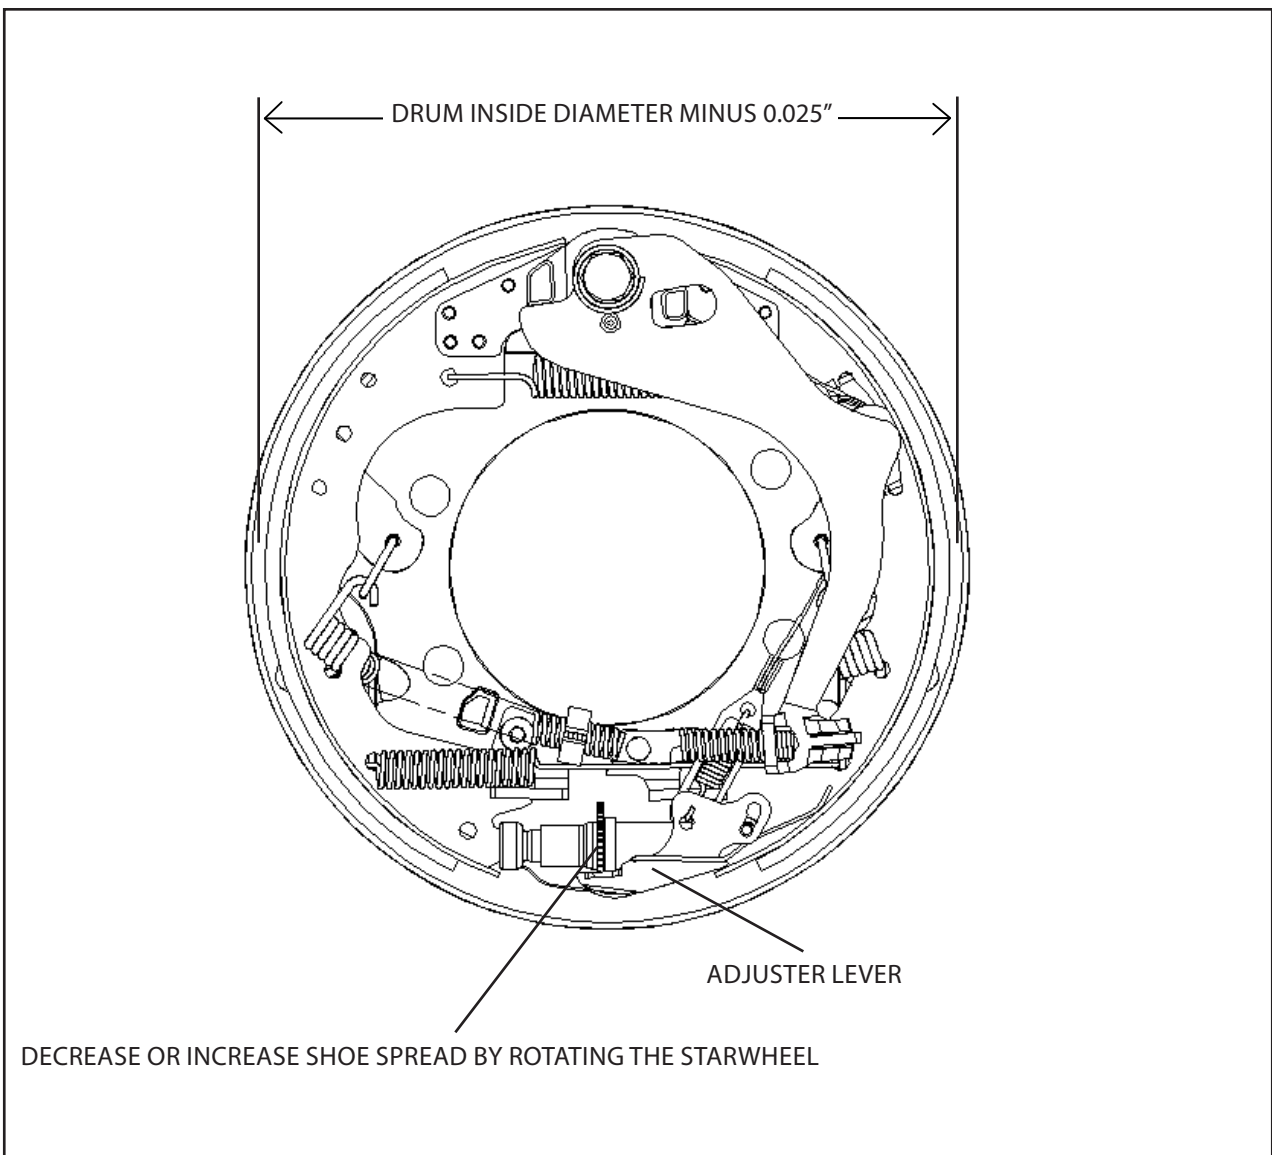

Figure 13. Initial Brake Shoe Adjustment
4. To adjust brake, rotate the starwheel until the shoes touch the measurement caliper jaws. It is necessary to disengage the adjuster lever away from the starwheel. See Figure 13.